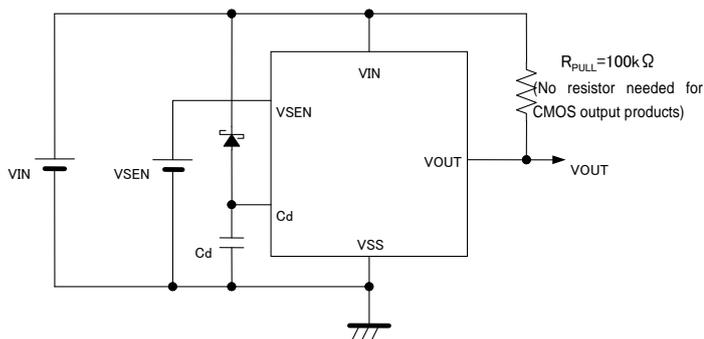

Figure 3: Circuit example with the delay capacitance pin (Cd) connected to a Schottky barrier diode
* The release delay time values above are calculated by using the formula (2).
6. When there is a possibility of which the power supply input pin voltage falls rapidly (e.g.: 6.0V to 0V) at release operation with the delay capacitance pin (Cd) connected to a capacitor, use a Schottky barrier diode connected between the VIN pin and the Cd pin as the Figure 3 shown below.